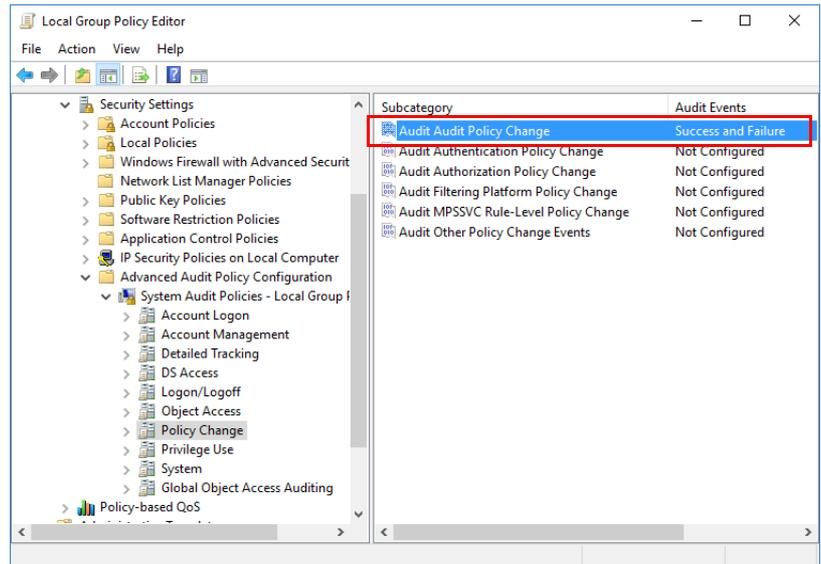

Figure 2-60. Policy Change setting
- Set these properties for Policy Change, see Figure 2-60.